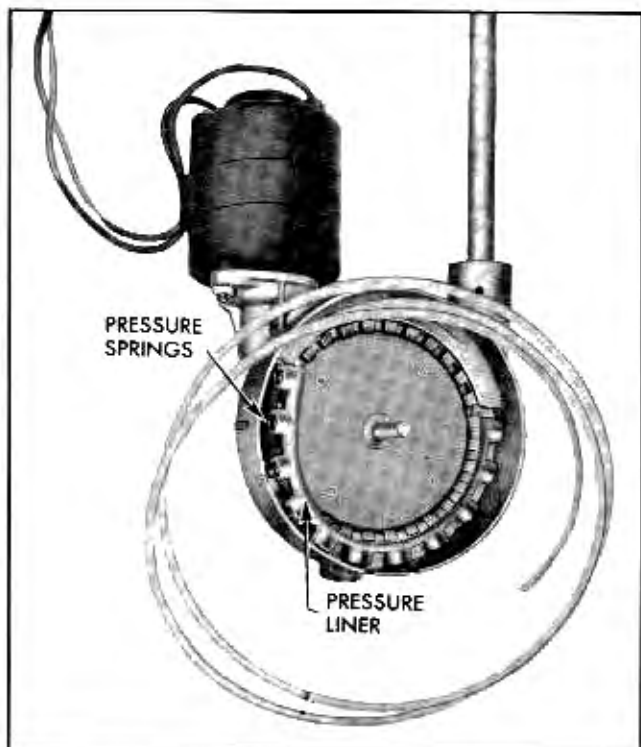

Fig. 14-11 Pressure Liner and Springs
7. Remove nylon pressure liner, being careful not to lose springs as it is removed (Fig. 14-11).